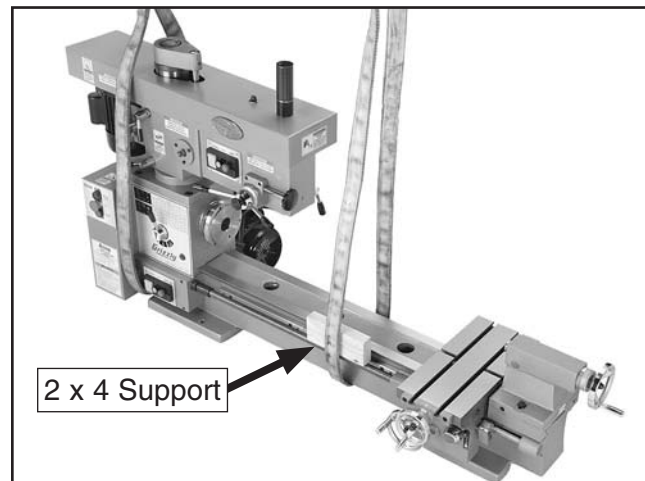

Figure 8. Lifting straps positioned with a 2x4 protecting the leadscrew.
6. Wrap the lifting straps underneath the left side of the base and under the center of the bedway, as shown in **Figure 8**.
Note: Place a piece of 2 x 4 between the right lifting strap and the leadscrew to prevent the leadscrew from bending, as shown in **Figure 8**.